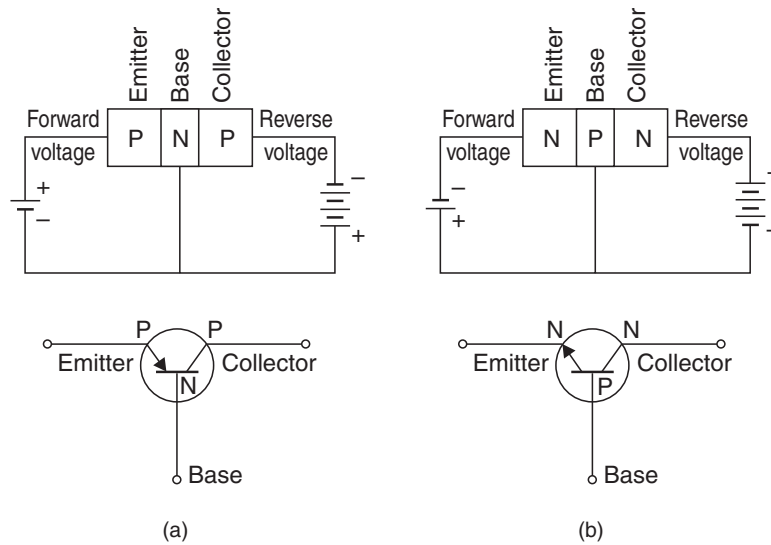

Fig. 29. Junction transistors illustrating emitter, base and collector.
As shown in Fig. 29, the transistor consists of a P - N junction and an N - P junction, by making either P or N semiconductor between opposite types. The purpose is to have the first section supply charges, either holes or electrons, to be collected by the third section, through the middle section. The electrode that supplies charges is *emitter* ; the electrode at the opposite end to collect the charges is the *collector*. The *base* in the middle forms two junctions between emitter and collector, *to control the collector current*.
- As shown for the P - N - P transistor in Fig. 29 (a), the P emitter supplies *hole charges* to its junction with the base. This direction is indicated by the emitter arrow for forward hole current in the schematic symbol. The *arrow pointed into the base* shows a P - N junction between emitter and base, corresponding to the symbol for a P - N diode.
- For the N - P - N transistor in Fig. 29 (b), the emitter supplies electrons to the base.
The function of a collector is to remove charges from the junction with the base. In Fig. 29 (a), the P-N-P transistor has a P collector receiving hole charges. For the N-P-N transistor in Fig. 29 (b), the N collector receives electrons. The collector base junction always has reverse voltage. Typical values are 4 to 100 V. This polarity means no majority charges can flow from collector to base. However, in the opposite direction, from base to collector, the collector voltage attracts the charges in the base supplied by the emitter.